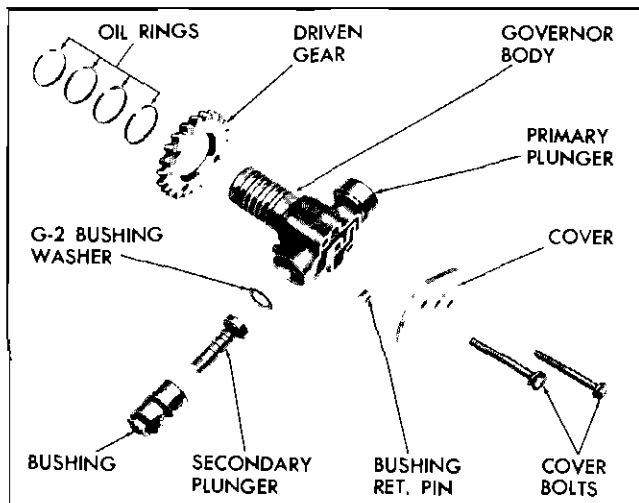

Fig. 131 Governor Parts—Exploded
1. Remove two cover to governor driven gear attaching screws (Fig. 131).
1. Insert G-2 bushing stop washer in body (Fig. 131).